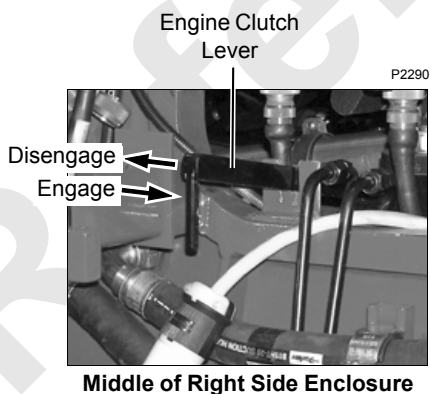

FIGURE 3-17
4. If necessary in cold weather, disengage engine clutch as shown in Figure 3-17. This step will disconnect the pumps from the engine and aid in cold weather startup.